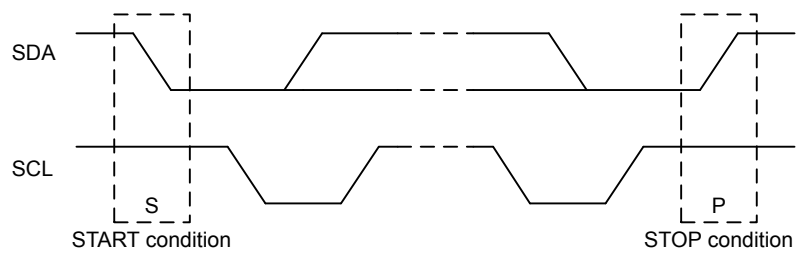

Figure 22.4. I2C START and STOP Conditions
START and STOP conditions are used to initiate and stop transactions on the I²C-bus. All transactions on the bus begin with a START condition (S) and end with a STOP condition (P). As shown in Figure 22.4 I2C START and STOP Conditions on page 686, a START condition is generated by pulling the SDA line low while SCL is high, and a STOP condition is generated by pulling the SDA line high while SCL is high.